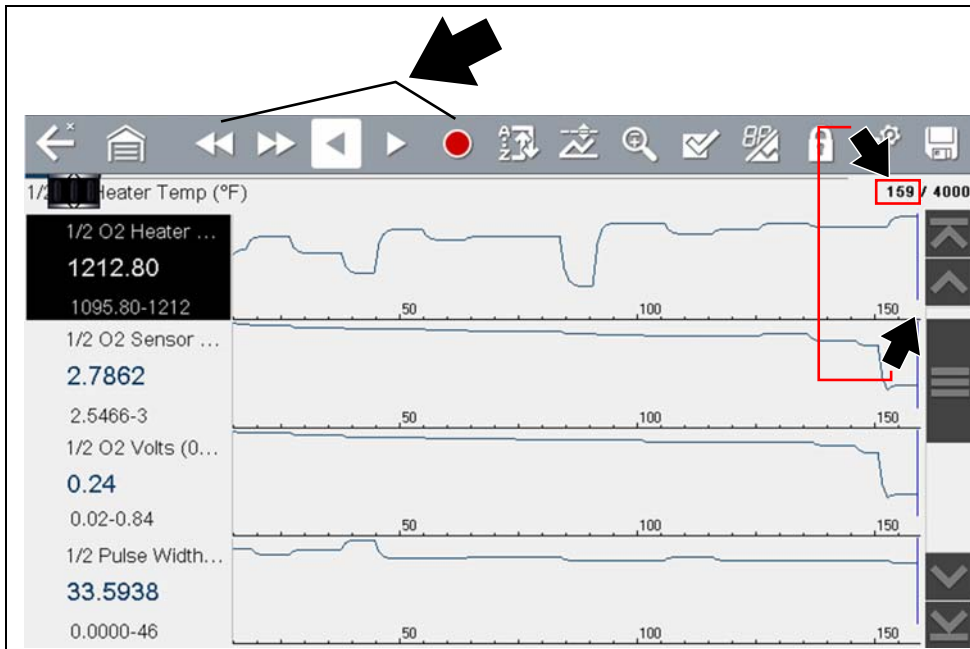

Figure 6-13
- Review control icons are displayed in the toolbar (Figure 6-13). Use the control icons to accurately move through the data.
- The blue (vertical cursor) (Figure 6-13) indicates your position in the data and is denoted by the current position value in the counter display. This cursor displays in all PIDs.